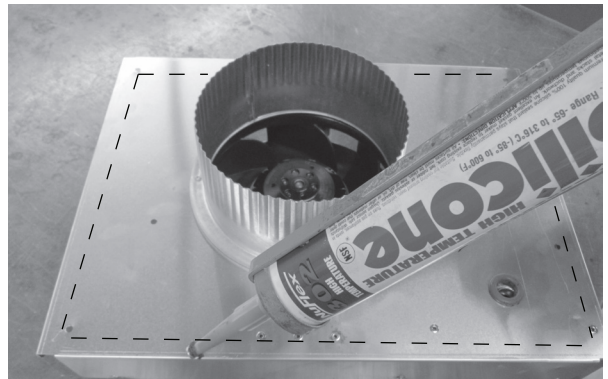

Figure 2.14
13. Apply a bead of silicone (with a minimum of 300° F continuous exposure rating) around the entire metal flange of the HEAT-OUT-PRIMO. See Figure 2.14. Align with HEAT-OUT-BEK as shown in Figure 2.12. Ensure cap is level and square, then secure HEAT-OUT-PRIMO to HEAT-OUT-BEK as shown in Figure 2.13.
15. Place a bead of silicone (with a minimum of 300° F continuous exposure rating) on the back side of the mounting flange for the heat-out. See Figure 2.14.